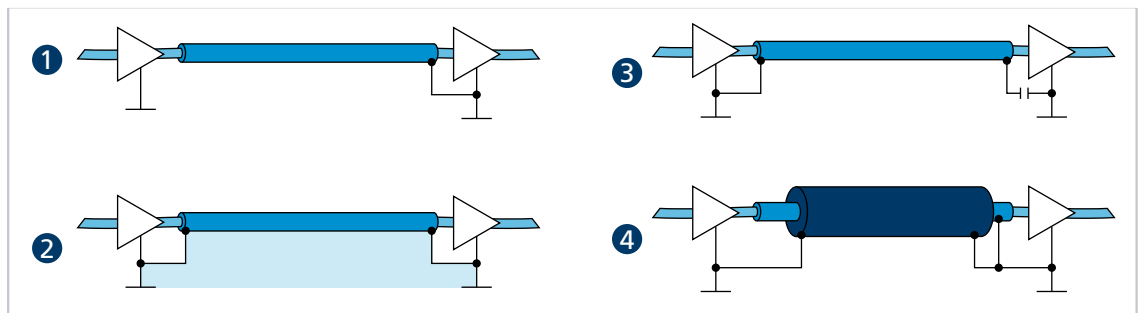

Fig. 22: Various possibilities for the shield connection
- ▶ Lay the motor phases in a shield, separate from the sensor or encoder signals, and connect on at least the motor side (see 1 or 2 in Fig. 22).
The sensor signals can optionally be laid with the motor phases in a shared cable/insulation hose using another outer braided shield. This outer braided shield must be connected at both ends (e.g., 4 in Fig. 22). A solution such as 2 in Fig. 22 is not functional in every case for this configuration. If this is not possible by means of a ground offset, establish the RF connection via specially suited capacitors (e.g., safety capacitors such as Y1/Y2/X1/X2, see 3 in Fig. 22). In this case, do not connect the shield multiple times except at the motor connection and controller side.